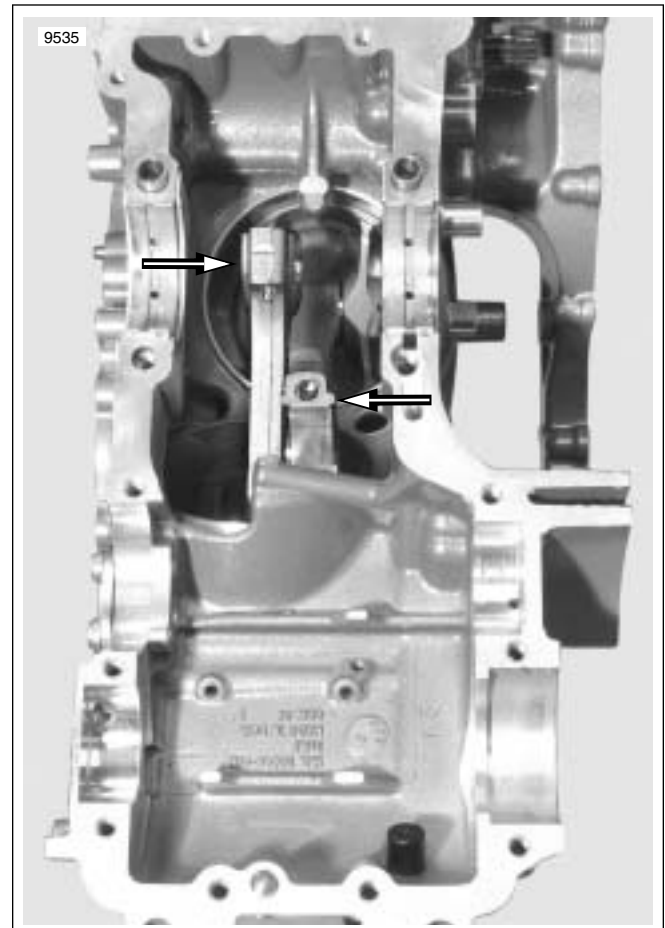

**Figure 3-229. Install Thrust Bearing**
- 39. See Figure 3-229. Install thrust bearing. Use a small amount of grease on the back of the bearing to hold in position.